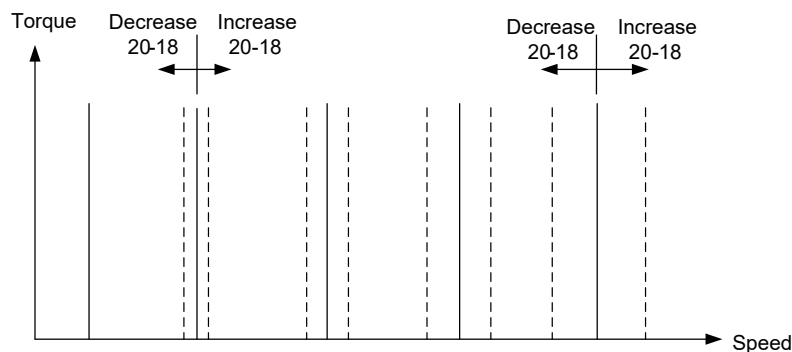

Figure 4.3.100 Effect on the torque-speed curve from 20-18
- Use parameter 20-18 to adjust the torque compensation gain for middle to high speed range. For most general purpose applications it is not necessary to adjust the 20-18. By tuning 20-18 an offset is added to the torque-speed curve. Increase 20-18 when the no-load speed is lower than the frequency reference. Decrease 20-18 when the no-load speed is higher than the frequency reference. The effect on the torque-speed curve from 20-18 is shown as the following Fig.4.3.100.